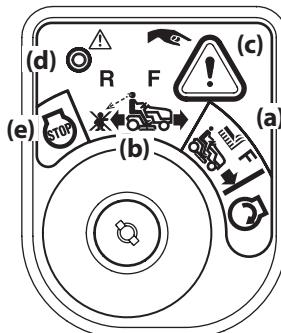

Figure 19
- Turn the ignition key from the NORMAL MOWING (a) position to the REVERSE CAUTION MODE (b) position of the ignition switch. See Figure 19.
- Press and hold the REVERSE CAUTION MODE BUTTON (c) at the top, right corner of the ignition module for 3 seconds. The red indicator light (d) at the top, left corner of the ignition module will be ON while activated. See Figure 19.
- Once activated (indicator light ON), the tractor can be driven in reverse with the PTO (Blade Engage) in the engaged (ON) position.